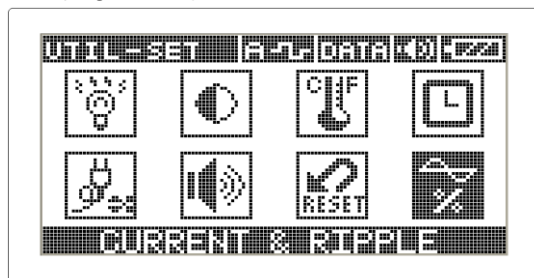

Figure 31 Utility
1. Press the <ENT> button to CURRENT & RIPPLE ICON in the UTILITY menu (Figure 31).
7. After measurement is complete, press <ESC> button, then you can move to the UTILITY menu (Figure 31).